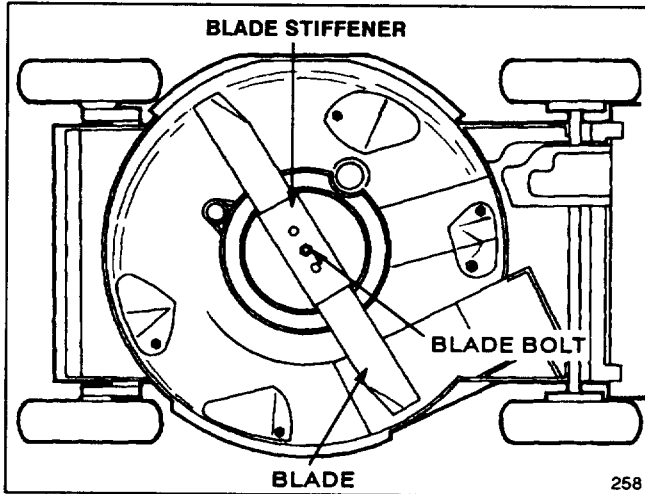

Figure 21
3. Tip mower on its right side (Fig. 21). Avoid rotating the blade because starting problems may result.
5. **REMOVING BLADE**—Grasp end of blade using a rag or thickly padded glove. Remove blade bolt, lockwasher, blade stiffener, and blade (Fig. 21).